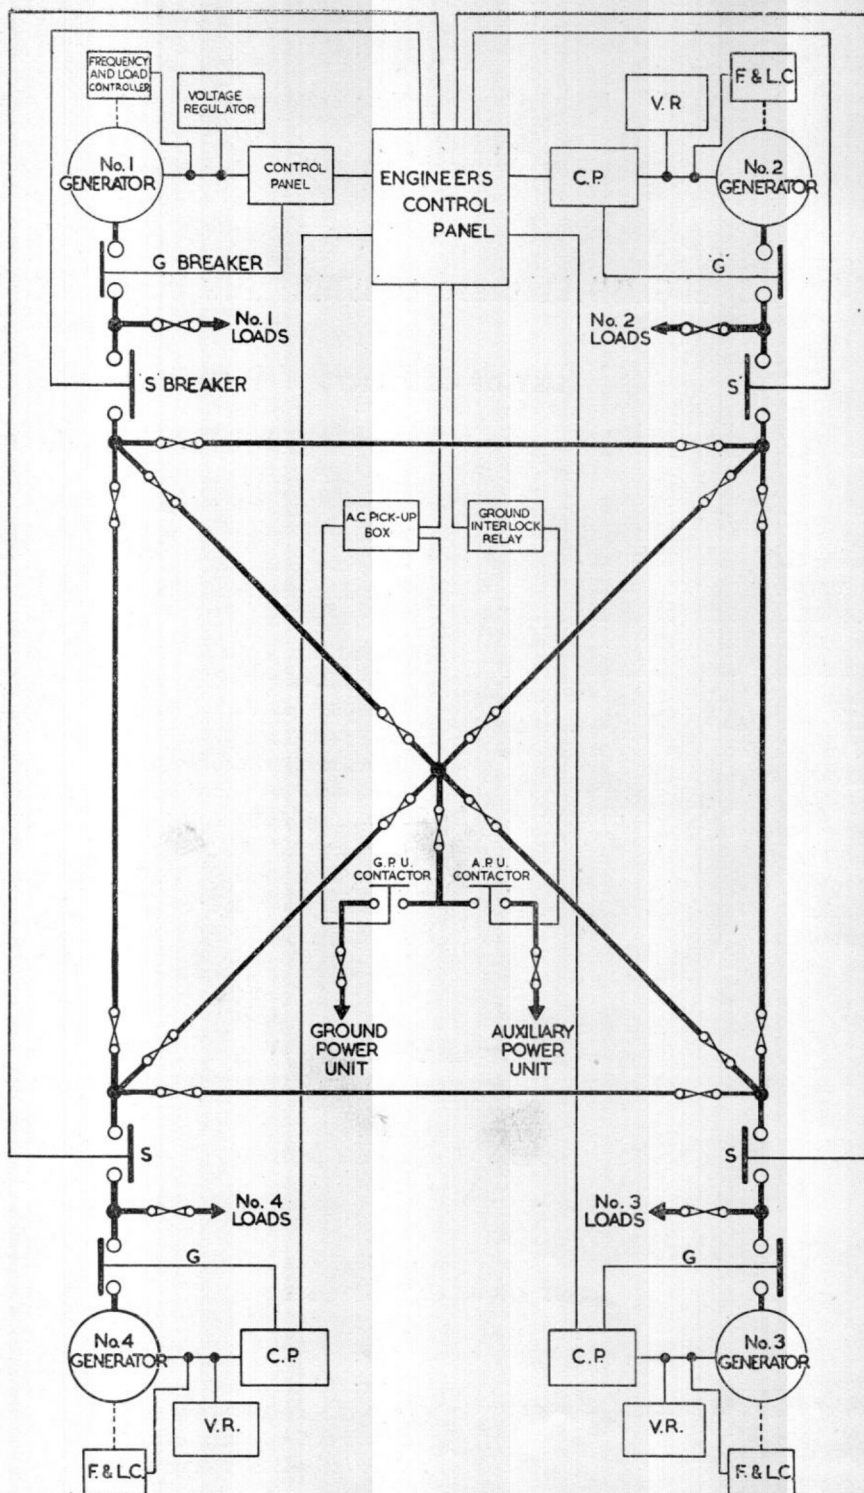

Fig. 1. Block diagram showing general system layout and bus-bar arrangement
5. A block diagram showing the general layout for four generators, and the bus-bar arrangement, is given in fig. 1.